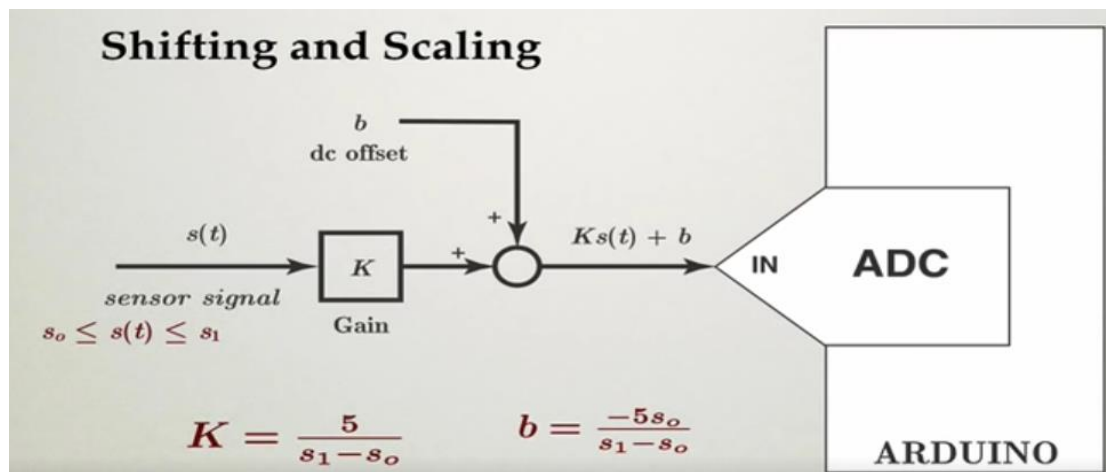

Figure 3: analog signal conditioner.
2. Explain the operation of the circuit shown in figure 3